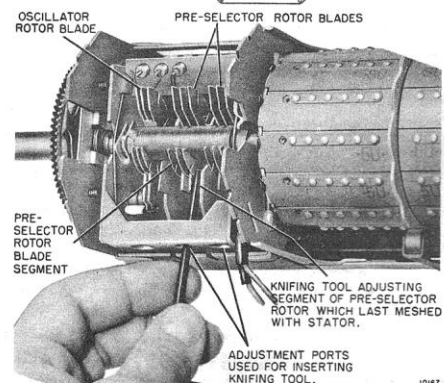

Figure 35. View of VHF-UHF Tuner Showing Method of Aligning (Knifing) Rotor Blades in UHF Section.
- \* NOTE 1: If UHF tuner is far out of alignment, the response curve may be too low in amplitude to be readily observed, or it may be very distorted in shape. In this case, it will be necessary to roughly align the preselector before completing final oscillator adjustment. This is done by knifing the preselector rotor blade segments (figure 35) adjacent to the stator at dial setting for the affected channel.